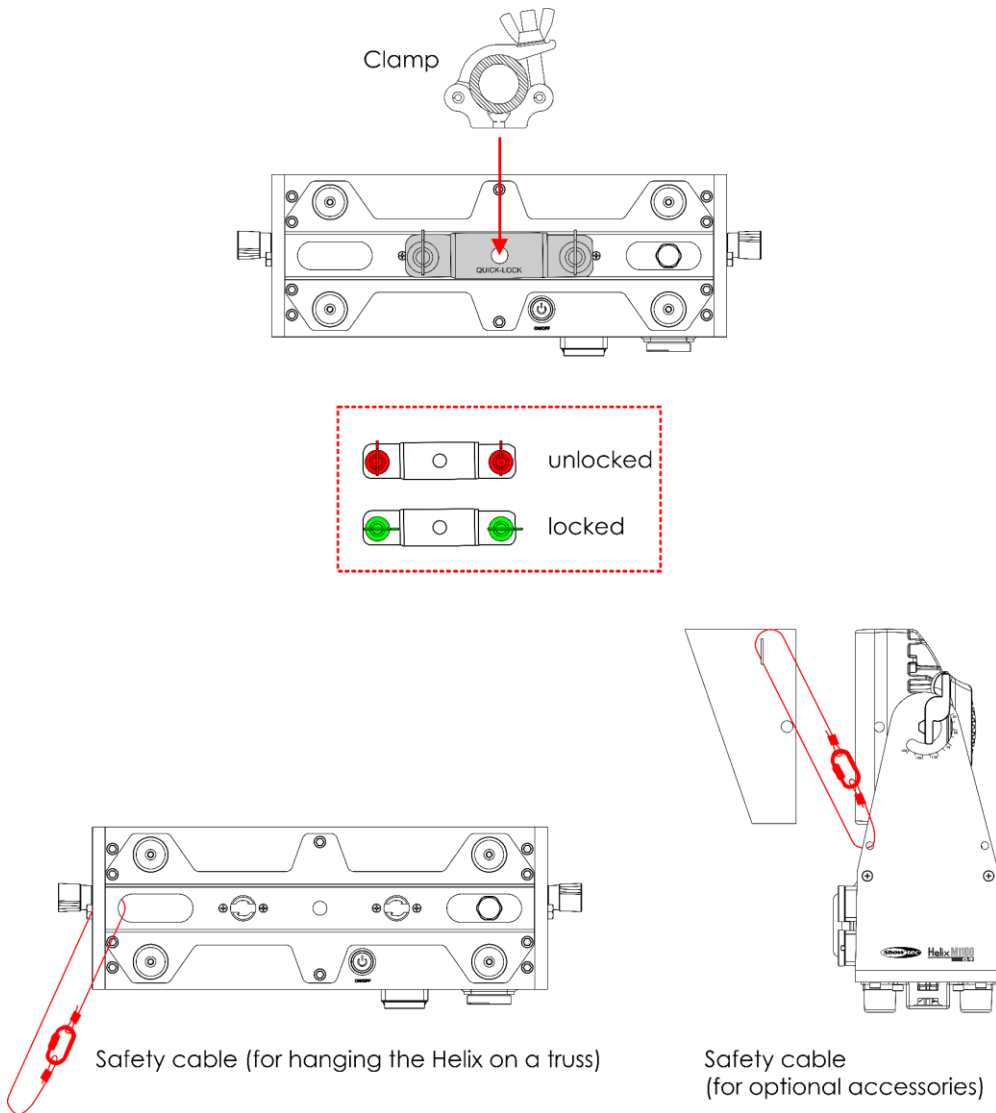

Fig. 14
- 01) Use a clamp to attach the device to the supporting structure, as shown in Fig. 14. Make sure that the device cannot move freely. The use of a quick lock bracket is optional.
- 02) Secure the device with a secondary suspension, for example a safety cable. Make sure that the secondary suspension can hold 10 times the weight of the device. If possible, the secondary suspension should be attached to a supporting structure independent of the primary suspension. Put the safety cable through the safety eye, as shown in Fig. 14. You can use the safety cable supplied with the device.